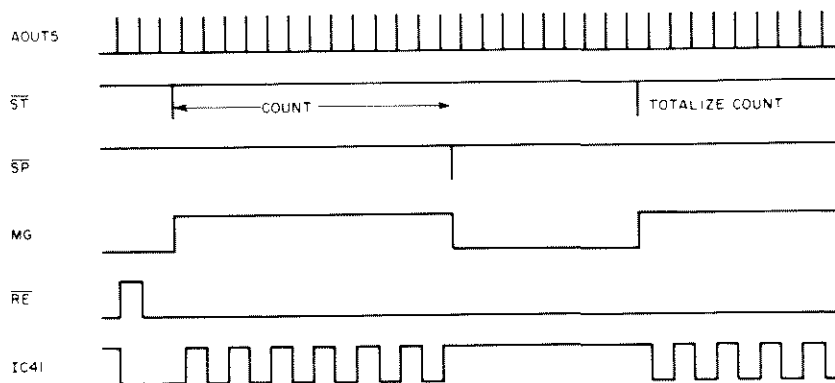

Figure 4-12. Time-interval mode timing diagram.
4.9.6 Time Interval (Figure 4-12).